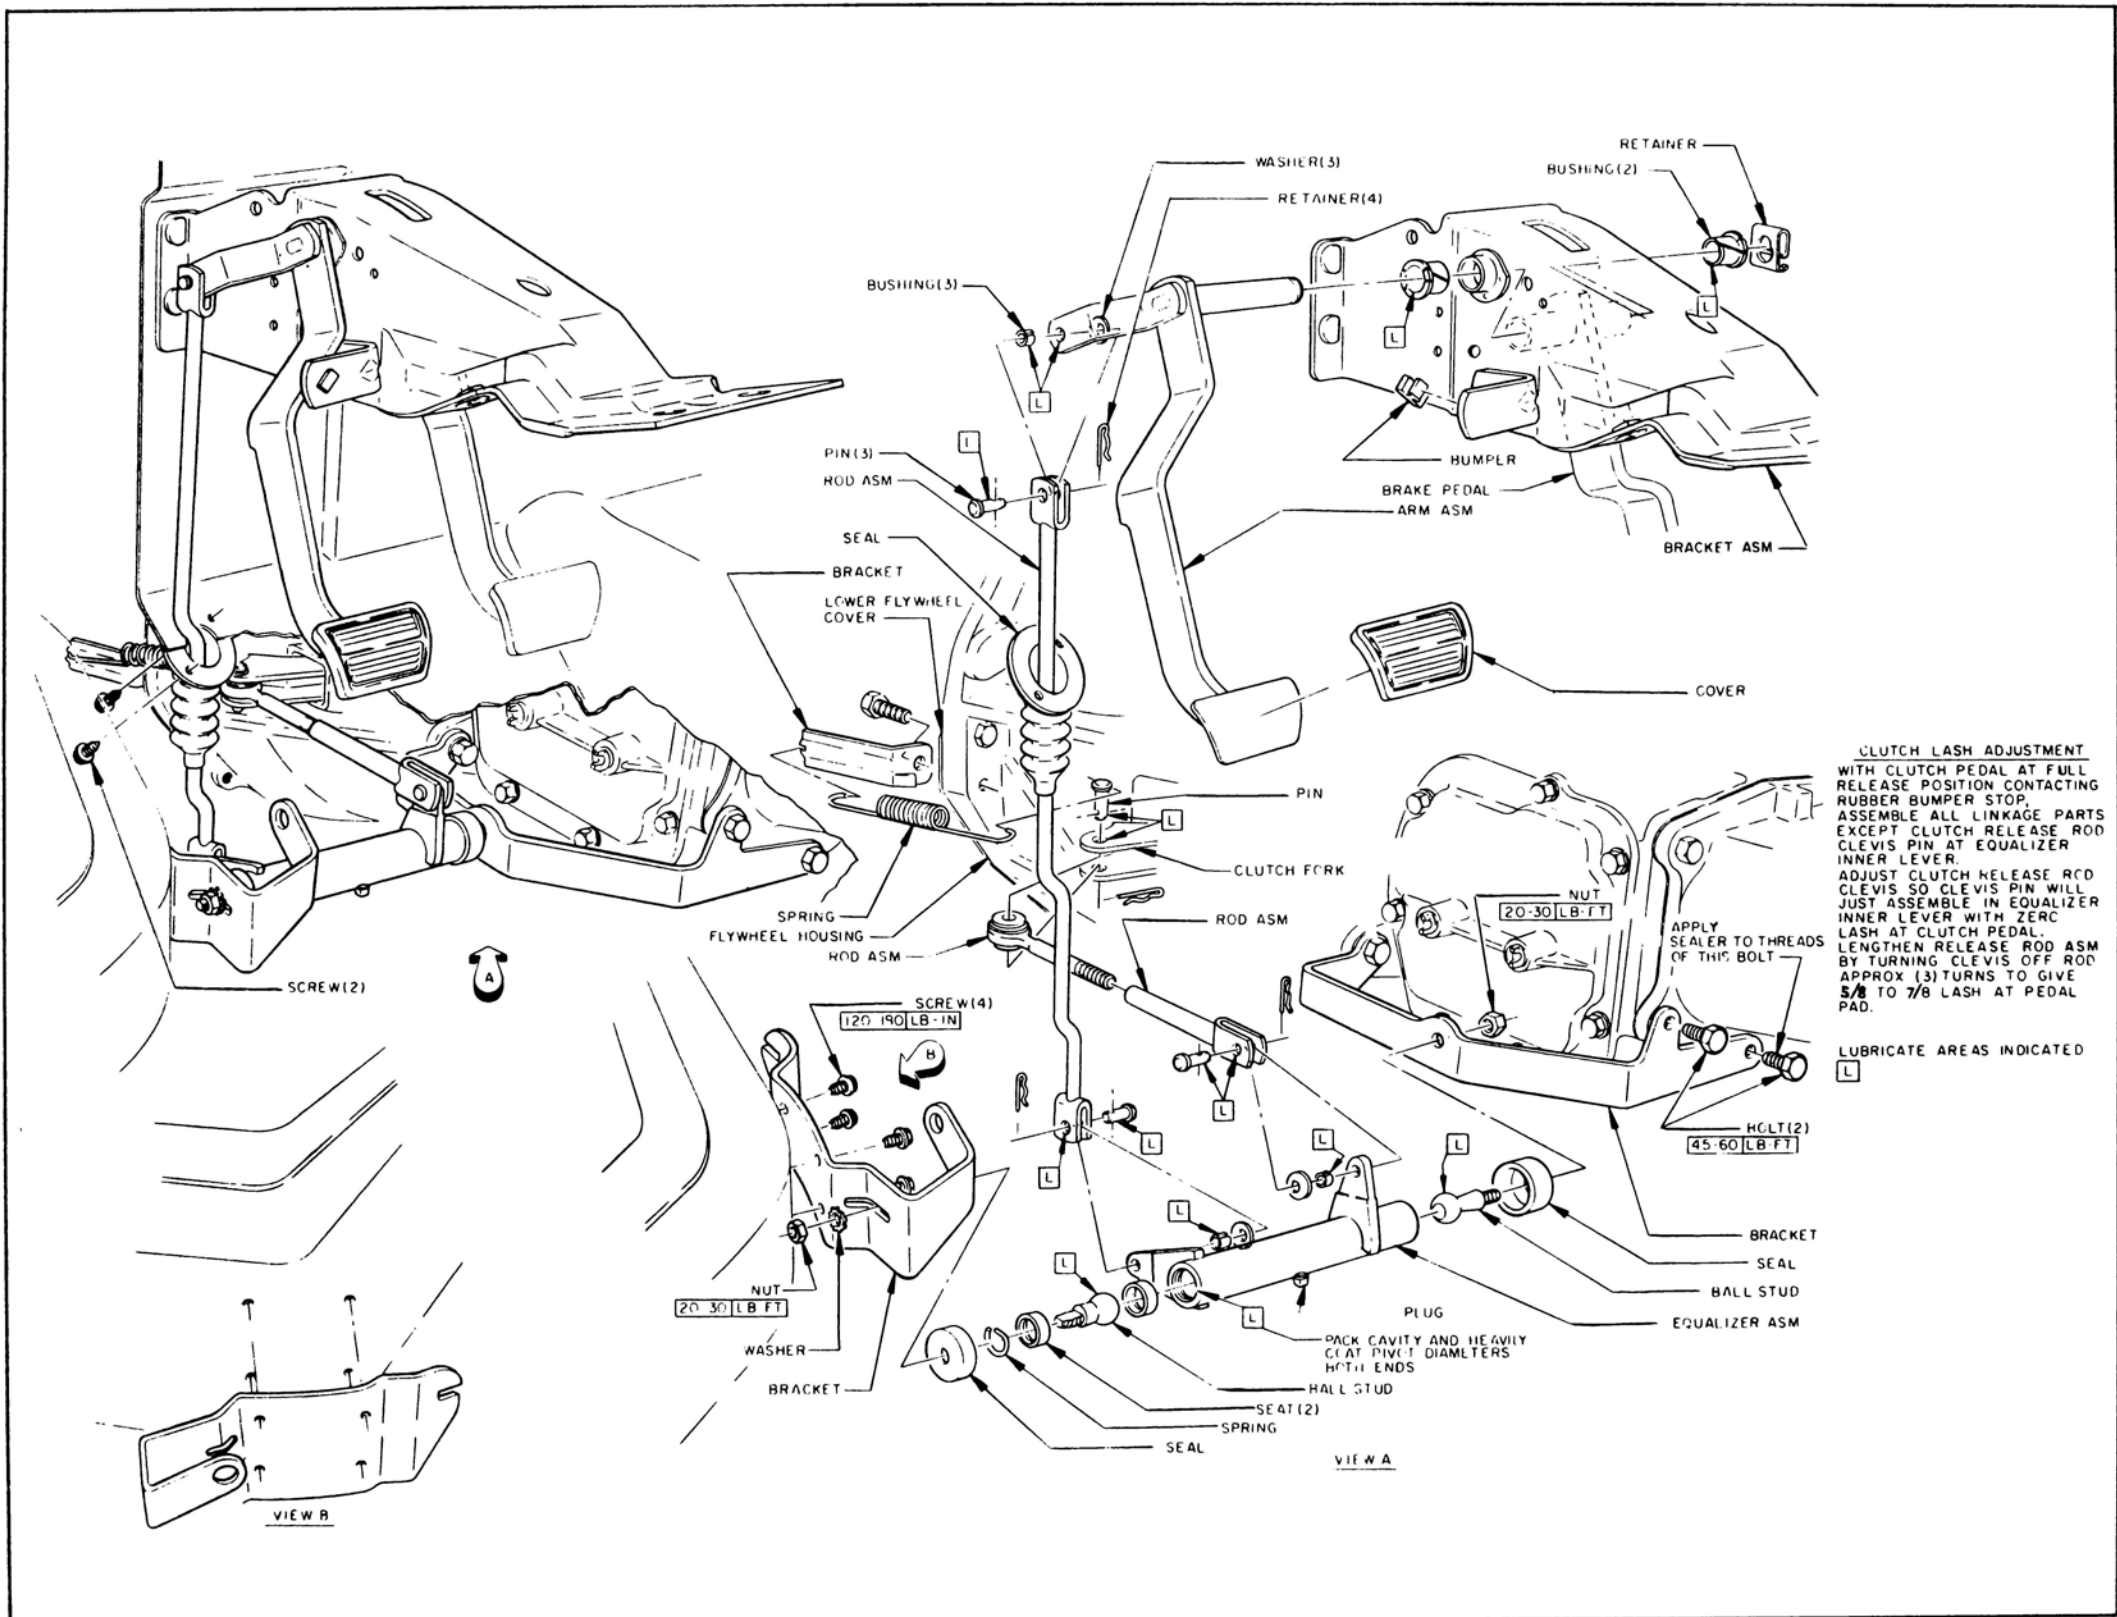

Figure 71-2—LeSabre and Wildcat Clutch Linkage
3. On LeSabre and Wildcat models, see Figure 71-2.
a. On LeSabre and Wildcat models, the equalizer assembly must be released first. See Figure 71-2.
a. On LeSabre and Wildcat models, disconnect rod assembly from clutch fork. See Figure 71-2.